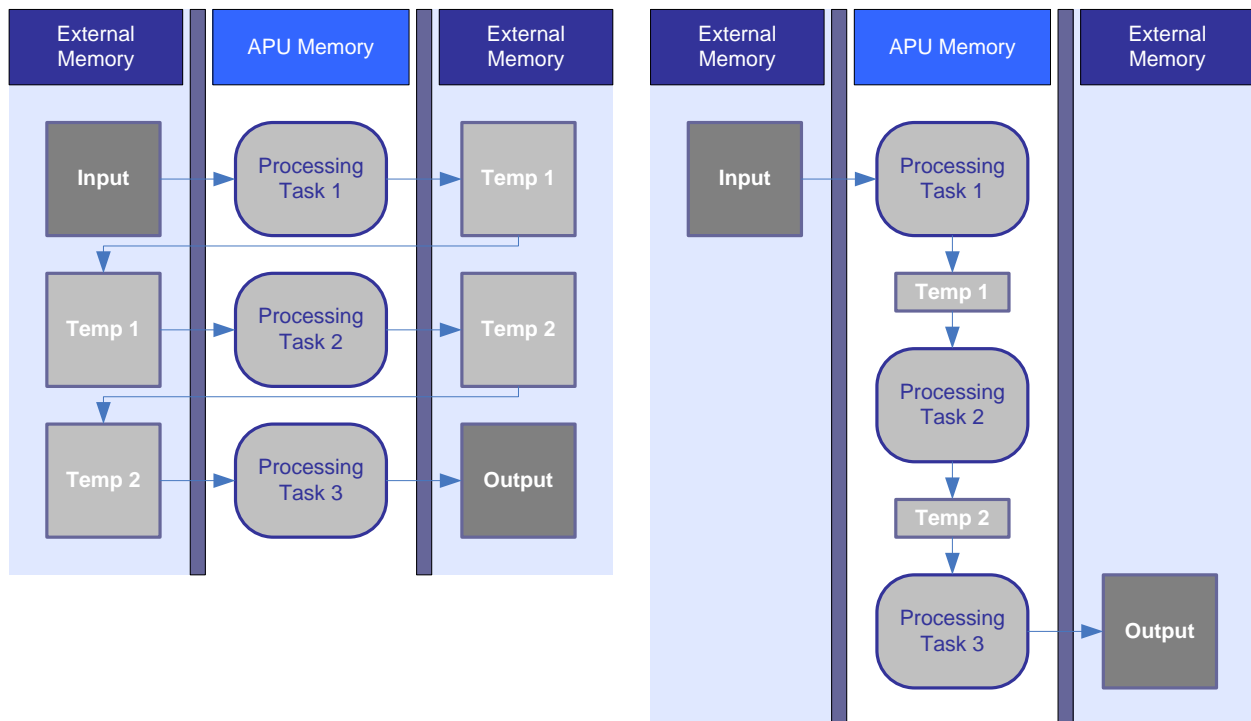

Figure 1 - Minimizing data movement between host and APU
- Combining multiple processing tasks into a single process, allowing the framework to take advantage of data locality and local intermediate results. In this way, the required input data is transferred from external memory to APU memory *once*. It is then fully processed, and the results are transferred back to external memory *once* (see the two scenarios presented in Figure 1 below). This approach significantly reduces the overhead and bandwidth associated with data movement.